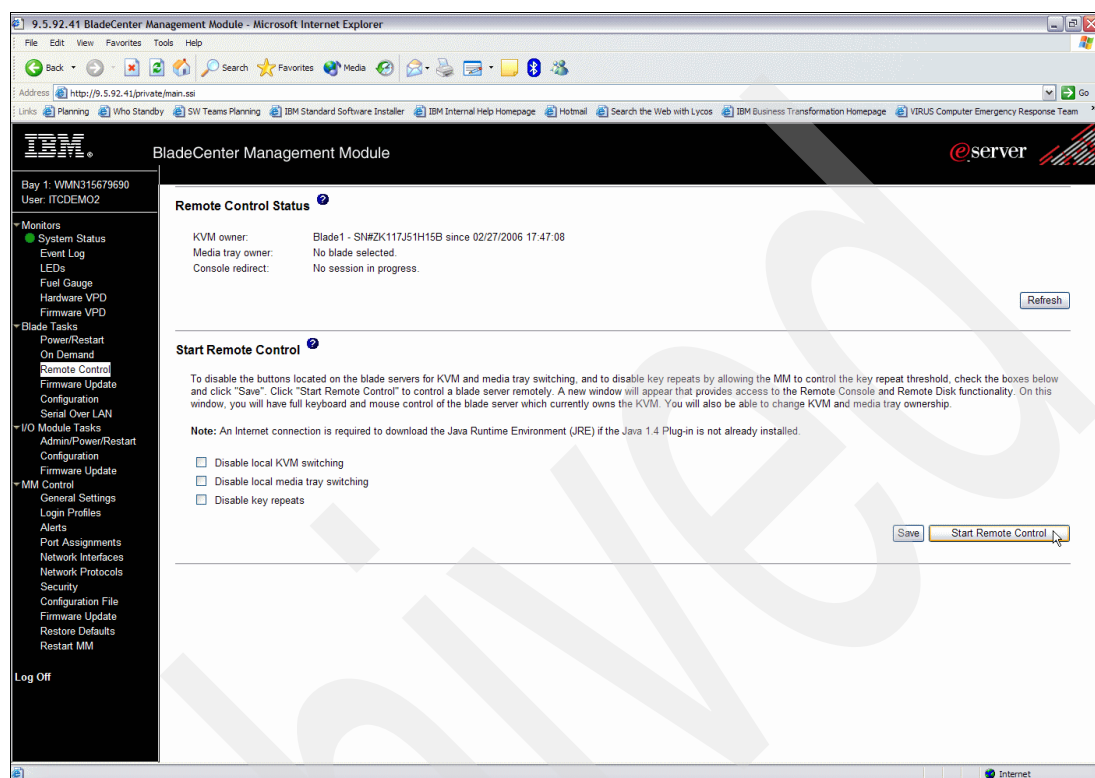

Figure 6-80 Start Remote Control in MM (BladeCenter)
6. Click **Start Remote Control**, there are possibly two warning messages to run an application, click **Run** on these. The BladeCenter Remote Control window opens (Figure 6-80 on page 230), which is divided into three panes: